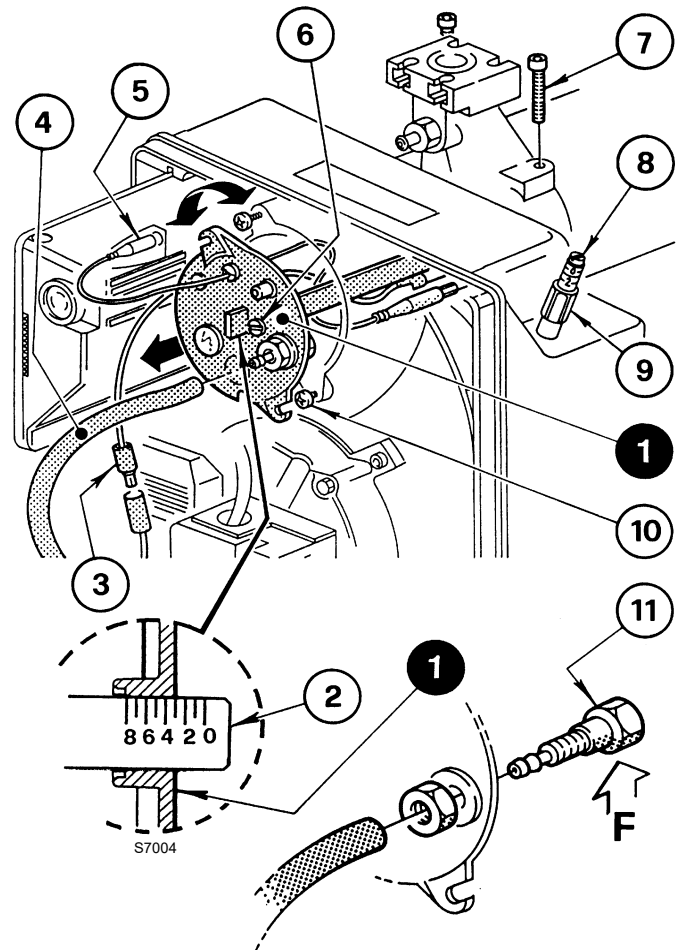

Fig. 13
This is carried out by turning the adjustment screw 6)(Fig. 13) clockwise or anti-clockwise until the notch on the regulating rod 2) lines up with the outside surface of the head assembly 1).
In Fig. 13 the head regulating rod is set to notch 3.
To remove the head assembly (Fig. 13) it is necessary to:
Reassemble with the reverse procedure to that described above, repositioning the head assembly 1)(Fig. 13) as it was originally.
Screw in the screws 7)(Fig. 13) all the way without locking them. Lock them with a tightening torque of 3 - 4 Nm.
If the pressure test point 11)(Fig. 13) should become slack accidentally (Fig. 13) we recommend fixing it correctly ensuring that the hole (F) (Fig. 13) inside the head assembly 1)(Fig. 13) is facing downwards.